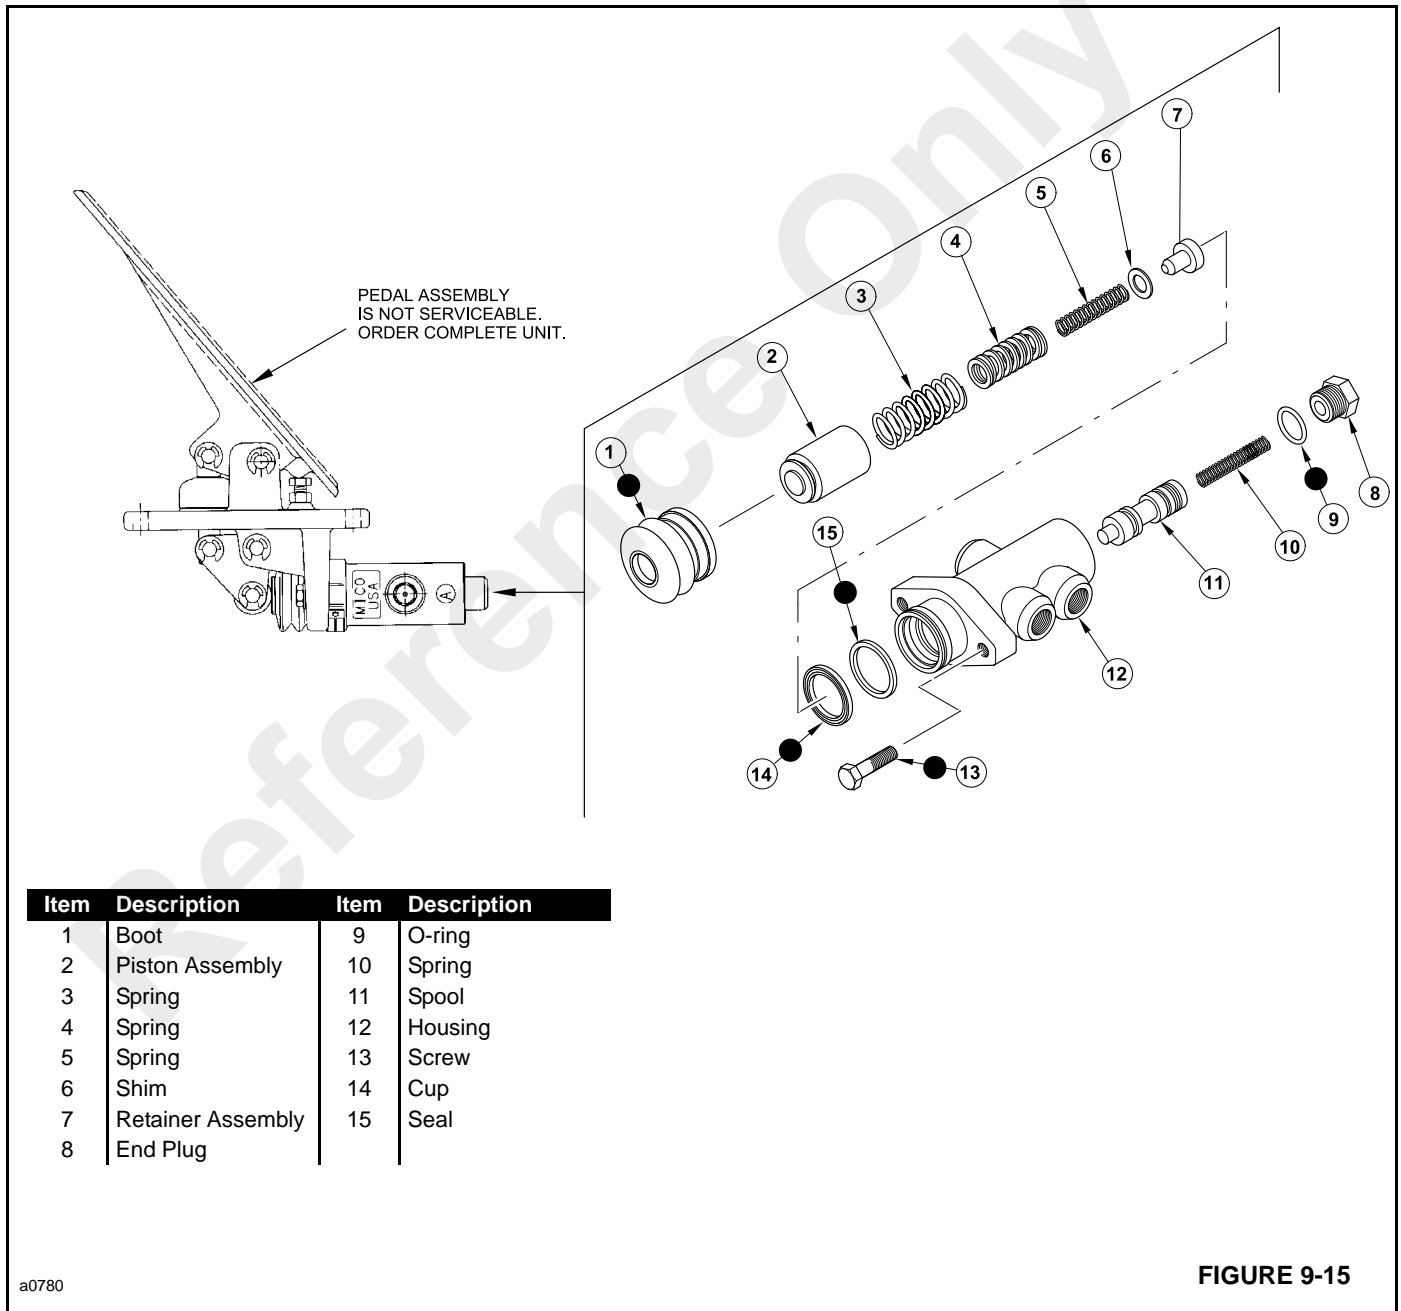

FIGURE 9-15
1. Remove the brake modulating valve from the pedal assembly, by removing two capscrews (13, Figure 9-15).
2. Remove boot (1) from piston (2) and housing (12).
3. Remove piston (2), springs (3, 4 and 5), shims (6) and retainer assembly (7) from housing (12).
**NOTE:** Observe and take note of the number of shims (6) being removed from the housing.
4. Carefully remove cup (14) and seal (15) from housing (12) bore. Be careful not to scratch or mar the bore.
5. Remove end plug (8) and spring (10) from housing (12). Remove O-ring (9) from plug (8).
6. Carefully remove spool (11) from end plug (8) end of housing (12).
A seal kit is available for repair of the valve. It consists of the items indicates with a I in Figure 9-15.
2. Lubricate spool (11, Figure 9-15) with clean hydraulic oil and carefully slide into plug end of housing (12).
3. Install new O-ring (9) on end plug (8).
4. Install spring (10) and end plug (8) into housing (12). Tighten to a torque of 54.2-67.8 Nm (40-50 lb-ft).
5. Carefully install new cup (14) and new seal (15) into bore of housing (12). Make sure they are installed in the proper order and direction. Take care when installing not to scratch or mar the housing bore.
6. Assemble springs (3, 4 and 5), shims (6) and retainer assembly (7) into piston (2).
7. Carefully install piston (2) assembly into bore of housing (12).
8. Install new boot (1) on housing (12) and piston (2).
9. Install the valve assembly onto the pedal assembly with new capscrews (13). Tighten to a torque of 24.4-29.8 Nm (18-22 lb-ft).